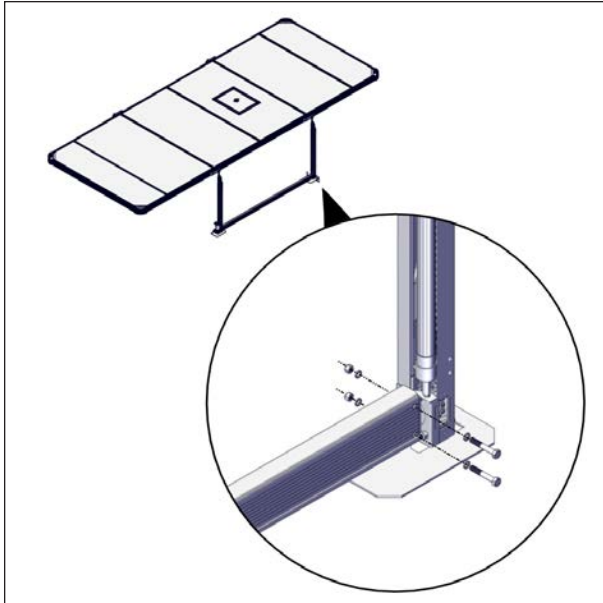

FIGURE 80: U-FRAME INSTALLATION
- Install the U-frame over the drive shaft. The U-frame is attached to the post bracket of the motor and non-motor jacks. Fasten in place using the hardware provided: four hexagonal 5/16" x 2" screws, four 5/16" nylon insert locknuts, and eight 5/16" flat nylon washers. Use a 1/2" (13 mm) socket wrench and spanner see Figure 80.